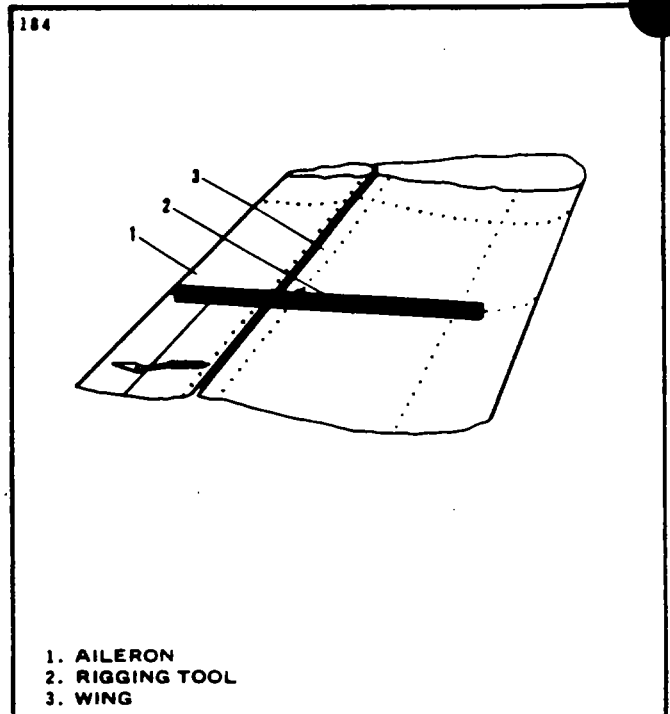

Figure 27-8. Installation of Aileron Rigging Tool
- A. Place a modified straightedge, as shown in Figure 27-8 against the underside of the wing, next to and outboard of the row of rivets at station 189.00 with the aft end of the tool even with the trailing edge of the aileron. (This tool may be fabricated from dimensions given in Chapter 95.) Do not place tool over rivets.